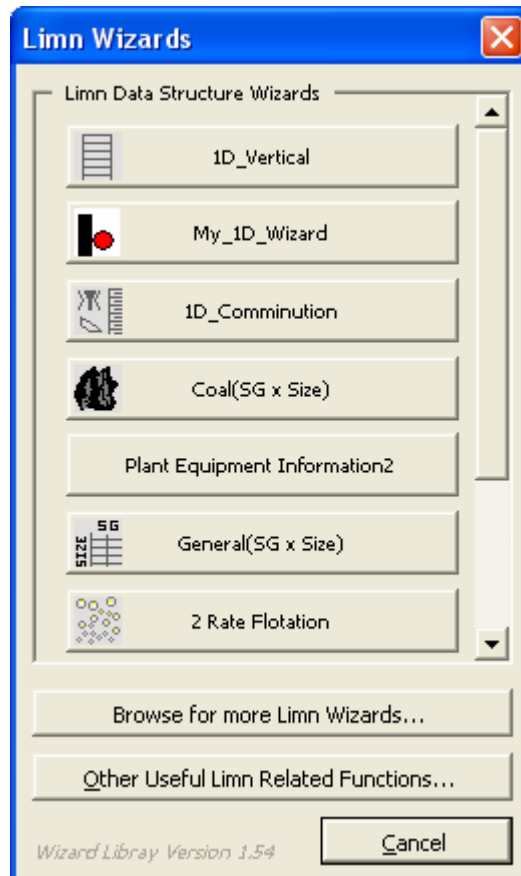

Figure 7: My\_1D\_Wizard button
4.2 Click on the Configuration Sheet. Enter the size fractions and Water in the Simulated Components column. Enter Total Solids, Total Flow and % solids in the Derived Components column, refer to figure 7 below.